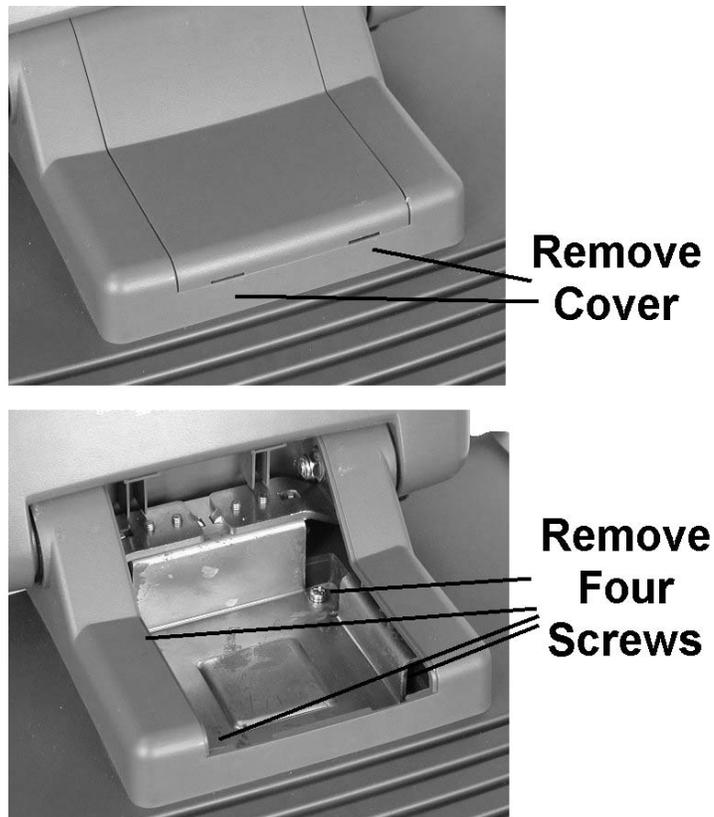

Figure 3-6: Removing the 15" LCD/Touchscreen Head from the Pedestal
- 14.** To remove the 15" LCD/Touchscreen Head from the pedestal, refer to Figure 3-6 to remove the plastic cover. Remove the four screws that fasten the 15" LCD Head to the backing plate.